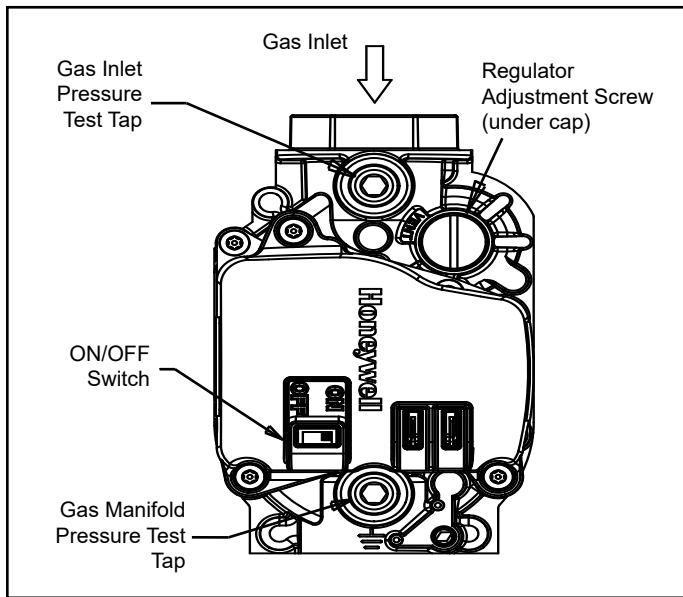

Figure 9. Gas Valve
The manifold pressure can be measured by removing the pipe plug in the automatic gas valve. Connect a water manometer and measure the pressure. See Figure 9.
3. Move the gas valve ON/OFF switch to the "ON" position (see Figure 9).
- Move the ON/OFF switch to the "OFF" position (see Figure 9).